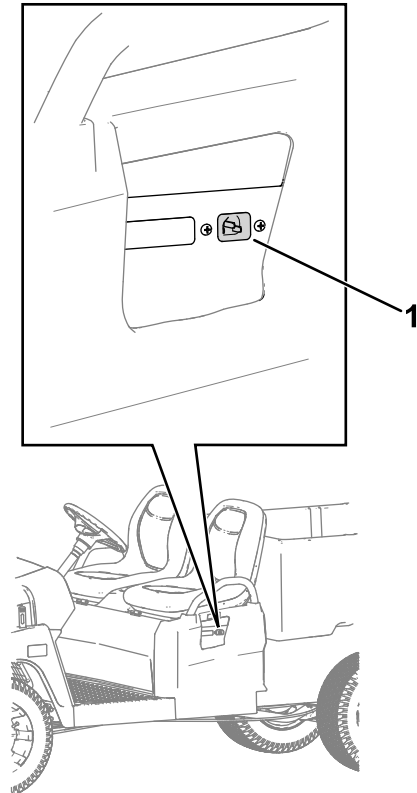

Figure 28
1. Plug the power-supply cord into the machine charger outlet (Figure 28).